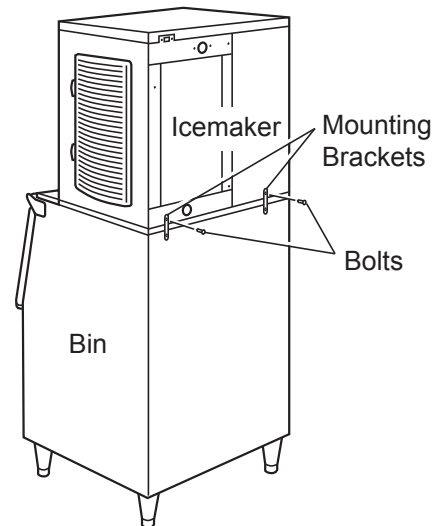

Fig. 2a
- 6a) **Ice Storage Bin:** Follow the ice storage bin, adapter kit, or top kit instructions for securing the icemaker. If no instructions are available, secure the icemaker using the 2 mounting brackets and the bolts provided. See Fig. 2a.